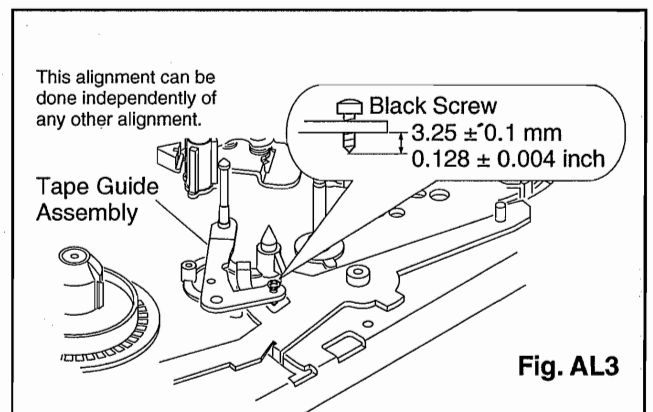

Fig. AL3
1. Measurement of the black screw must be as specified in Fig. AL3.